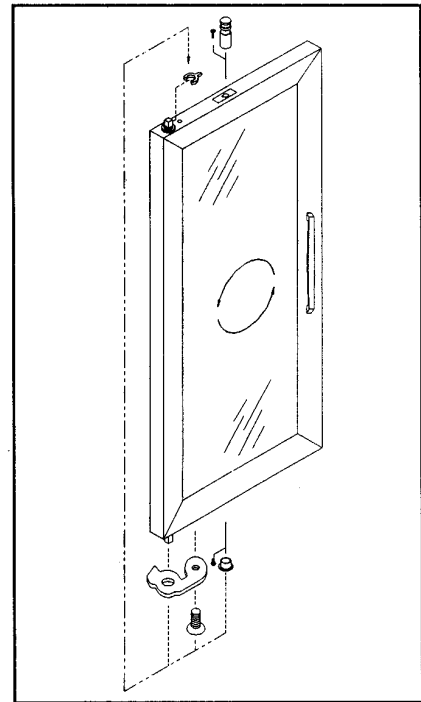

FIGURE 3
3. The post clips are pre-crimped at the top of the tongue. After the post clips are installed in the brackets, crimp the bottom of the tongue to prevent accidental disengagement of the post clip (**Figure 3**).